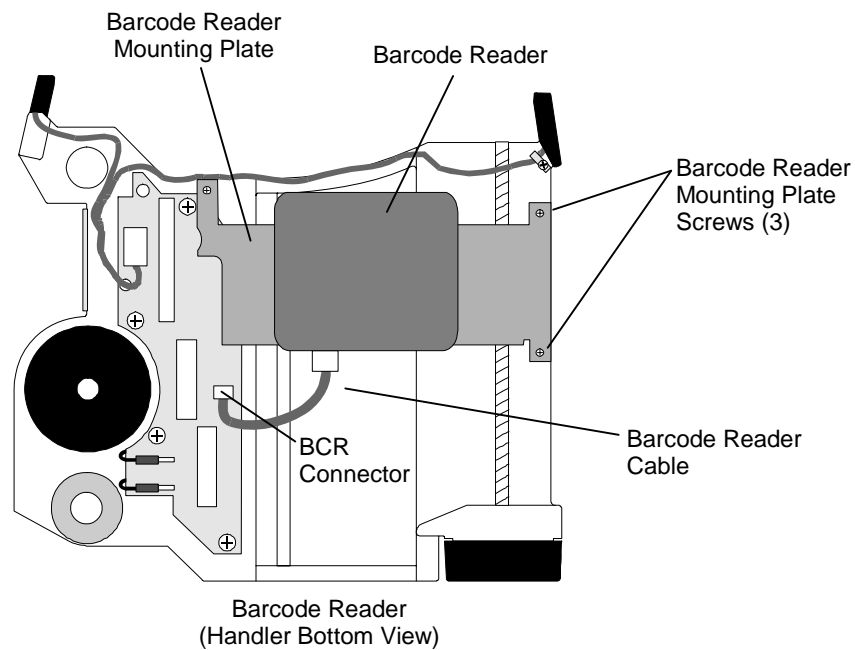

Figure 9-10 Barcode Reader
Follow the instructions in this Section to add a barcode reader to a TLS that currently does not have one (first-time installation). The Barcode Reader mounts on the underside of the Carriage Assembly (Figure 9-10).
Refer to Figure 9-10.
7. Connect the Barcode Reader cable to the BCR connector on the underside of the Carriage Assembly (Figure 9-10). The cable's connector is keyed, but make certain that all pins are engaged. (It may be necessary to manually lift the Carriage Assembly to see the BCR connector on the Carriage Assembly PCBA).